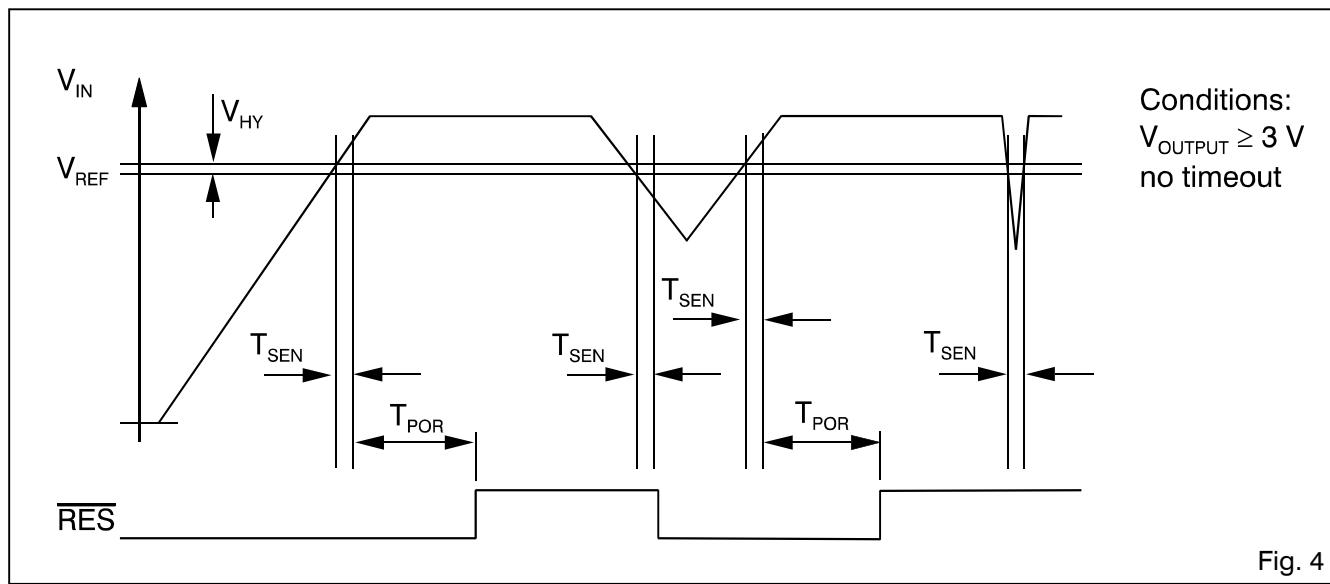

Fig. 4
- ⁷⁾ The comparator reference is the power-down reset threshold. The power-on reset threshold equals the comparator reference voltage plus the comparator hysteresis (see Fig. 4).
The power-on reset and the power-down reset are generated as a response to the external voltage level on the V_{IN} input. The external voltage level is typically obtained from a voltage divider as shown in Fig. 8. The user uses the external voltage divider to set the desired threshold level for power-on reset and power-down reset in his system. The internal comparator reference voltage is typically 1.52 V. At power-up the reset output (\bar{RES}) is held low (see Fig. 4). After INPUT reaches 3.36 V (and so OUTPUT reaches at least 3 V) and V_{IN} becomes greater than V_{REF} the \bar{RES} output is held low for an additional power-on-reset (POR) delay which is equal to the watchdog time T_{WD} (typically 100 ms with an external resistor of 123 k Ω connected at R pin). The POR delay prevents repeated toggling of RES even if V_{IN} and the INPUT voltage drops out and recovers. The POR delay allows the microprocessor's crystal oscillator time to start and stabilize and ensures correct recognition of the reset signal to the microprocessor.